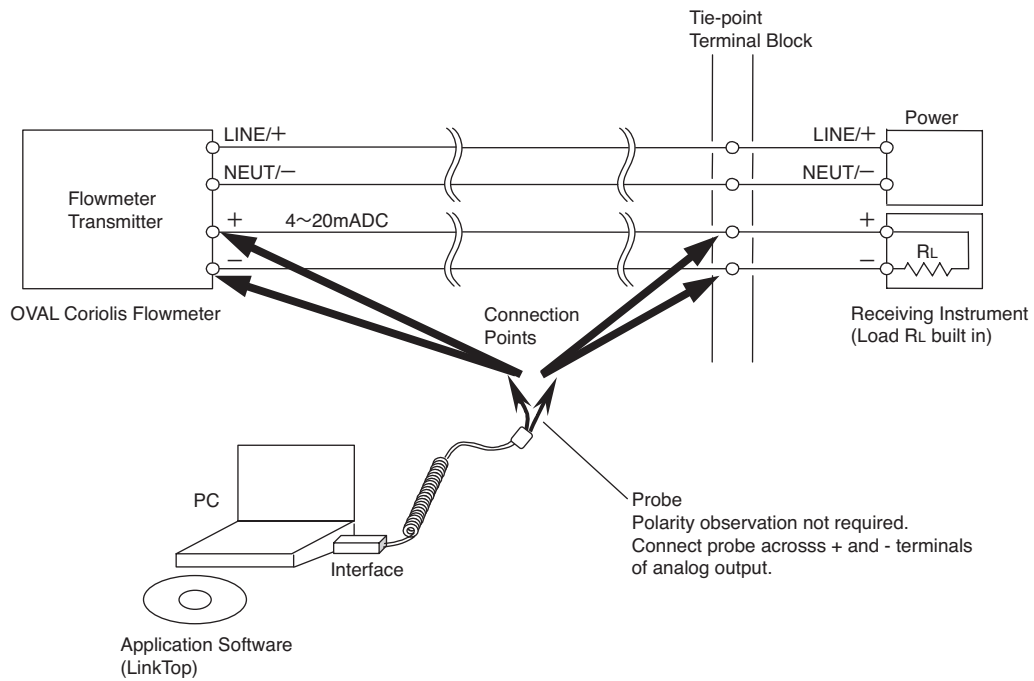

Fig.2
Equipment set-up with associated equipment and devices are shown in Fig. 2.
➡ NOTE: In Fig. 2, the customer is to supply the PC that meets the following requirements:
- ① Hook up the flowmeter transmitter, PC interface adapter, and "LinkTop" preinstalled PC as shown in Fig. 2.
- ② To get the LinkTop up and running, click from "Start" at lower left of the PC screen and click "LinkTop for CoriMate II (E)" from "Program".
- ③ Click "Port setting (I) Ctrl + I" in "File (F)" at the top-level menu of screen.